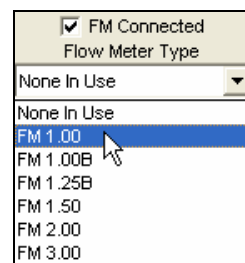

Figure 16.3.7B
5. Use the drop down list to choose the type of flow meter that you are using (Figure 16.3.7B).